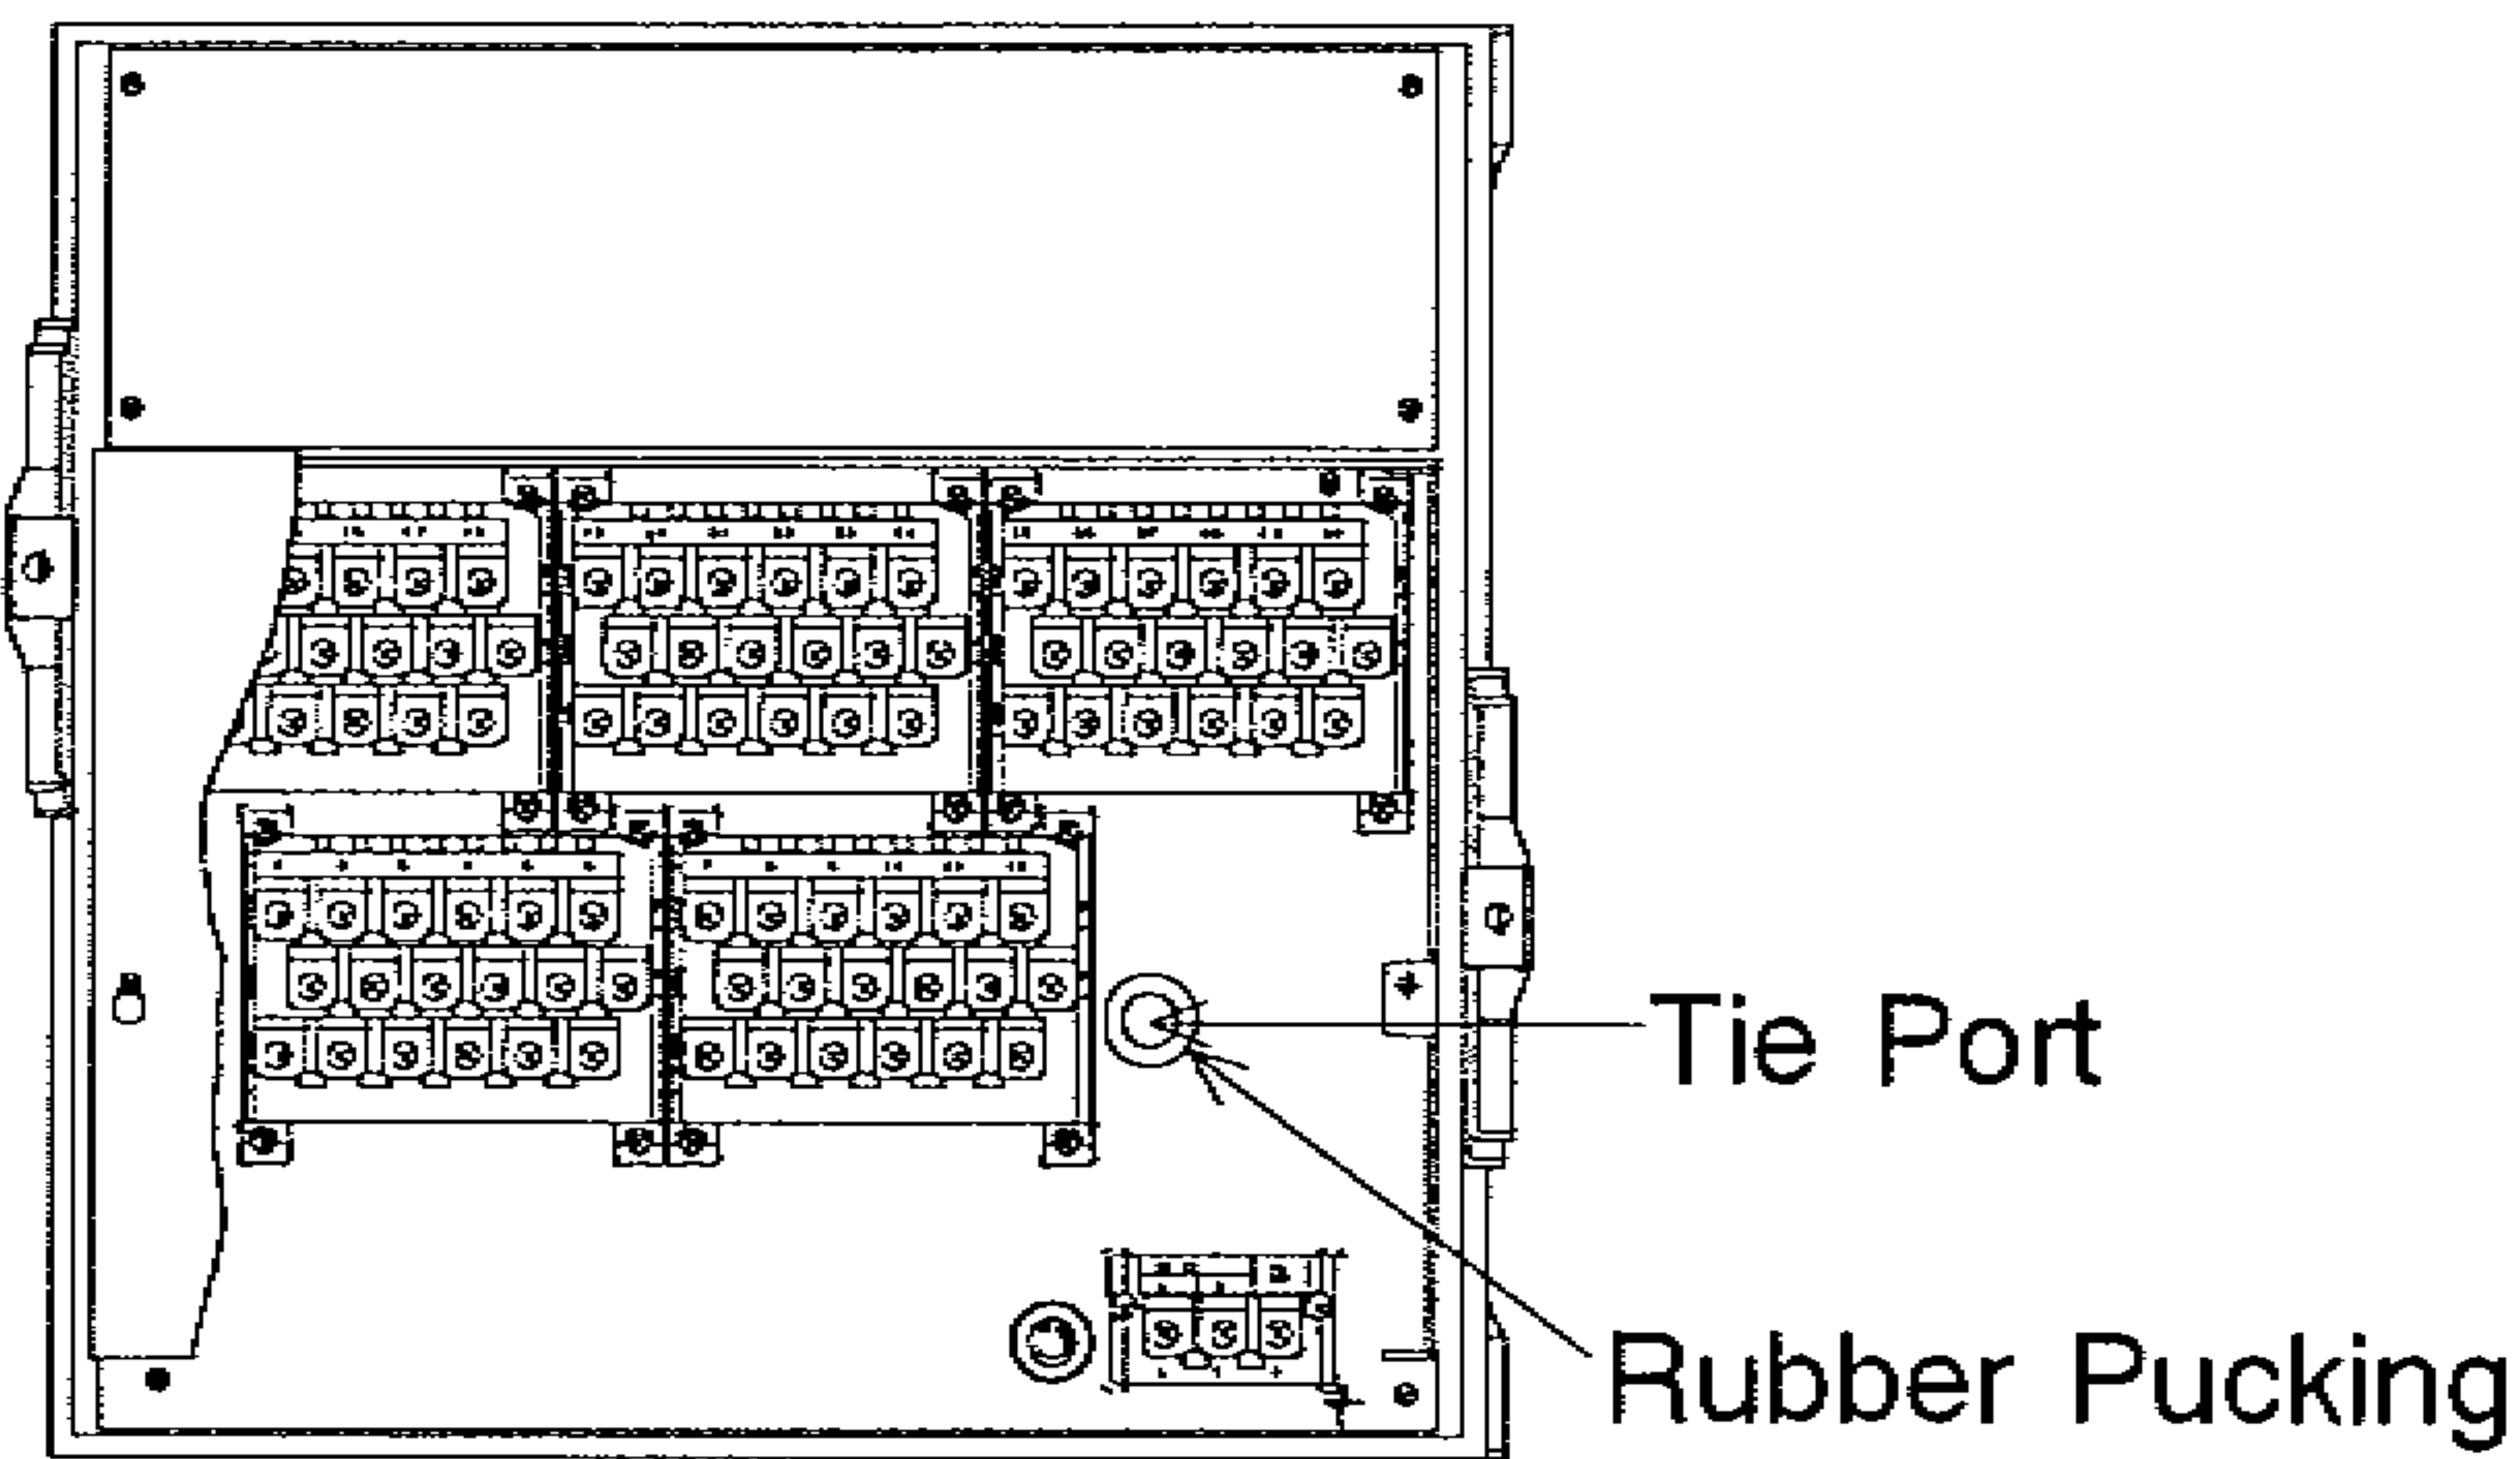

Fig. 10.14 Tie Port Position
- ① Turn off the power switch.
- ② Take out the main unit. (See Page 58)
- ③ Remove the rubber packing shown in Fig. 10.14.